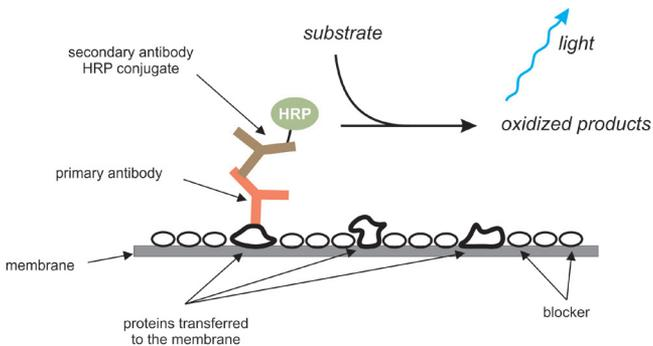

Figure 1. The principle of chemiluminescent Western blotting.
Western blotting is a protein analysis tool that has become commonplace in a molecular biology and protein chemistry laboratory. The principle of chemiluminescent Western blotting is shown in Figure 1. The general protocol, including the role of Radiance Plus, can be seen on page 7. Proteins are separated by size via electrophoresis, and then transferred electrophoretically from the gel to a membrane support, usually nitrocellulose or PVDF. This membrane containing the transferred proteins is commonly referred to as a blot. The location of a protein of interest is detected on the blot by applying the primary antibody, which binds to the protein. The primary antibody bound to the blot is then visualized using a secondary antibody that binds to the primary antibody. The secondary antibody is labeled in some way to make it detectable, such as with a radioactive isotope or an enzyme that can be detected by its activity.
Since 1988, enhanced chemiluminescence or ECL (1) has become one of the most common detection methods in Western blotting (2). In this method, the secondary antibody is conjugated to the enzyme Horseradish peroxidase (1,2). Once bound to the membrane, the secondary antibody is detected by incubating the blot with a solution containing an HRP substrate that generates a light-emitting product after reaction with HRP (Figures 1, 2). The chemiluminescent signal can be detected by exposing the blot to X-ray film, or by imaging with a CCD camera.